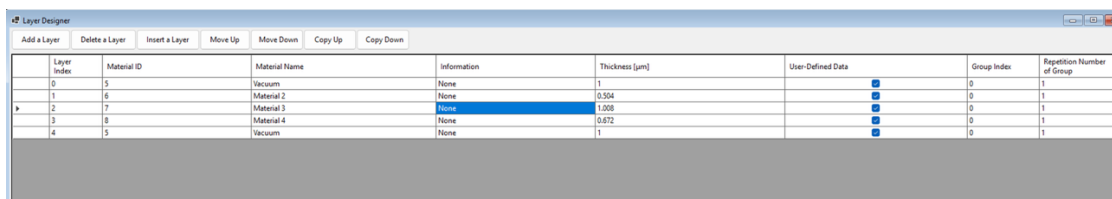

Figure 20. Layer Designer window after all parameters are set up correctly
2. Ensure the **User-Defined Data** checkbox is **checked** for all layers to use the materials you just created. After sub-steps 1 and 2 are completed, the “Layer Designer” window will be as shown in Figure 20.